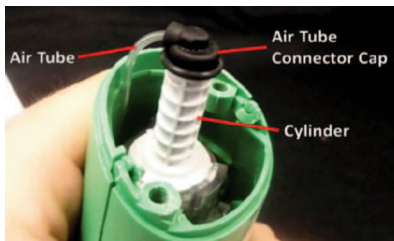

Figure 2: Air tube inserted into air tube connector cap
2. Remove the air tube from the rubber air tube connector cap on the bottom of the cylinder by gently pulling it from the circular hole. (see Figure 2)